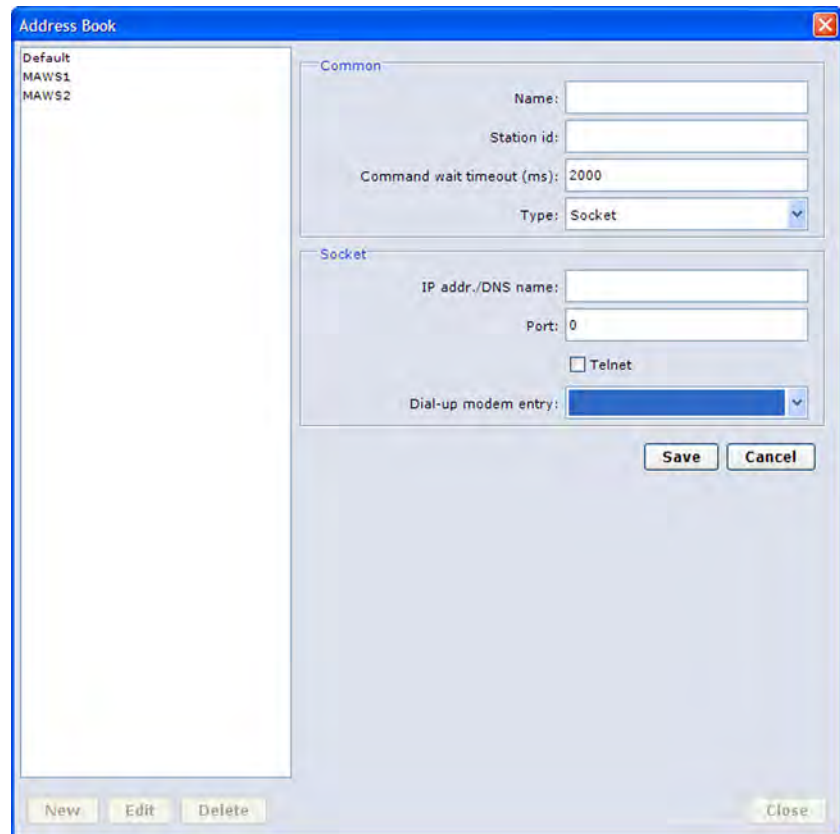

Figure 26 Creating Dial-up Connection Address Book Entry
3. From the **Type** list, first select **Socket**. The field for selecting Windows Dial-Up Networking entries is available in the window shown in Figure 26 on page 53.